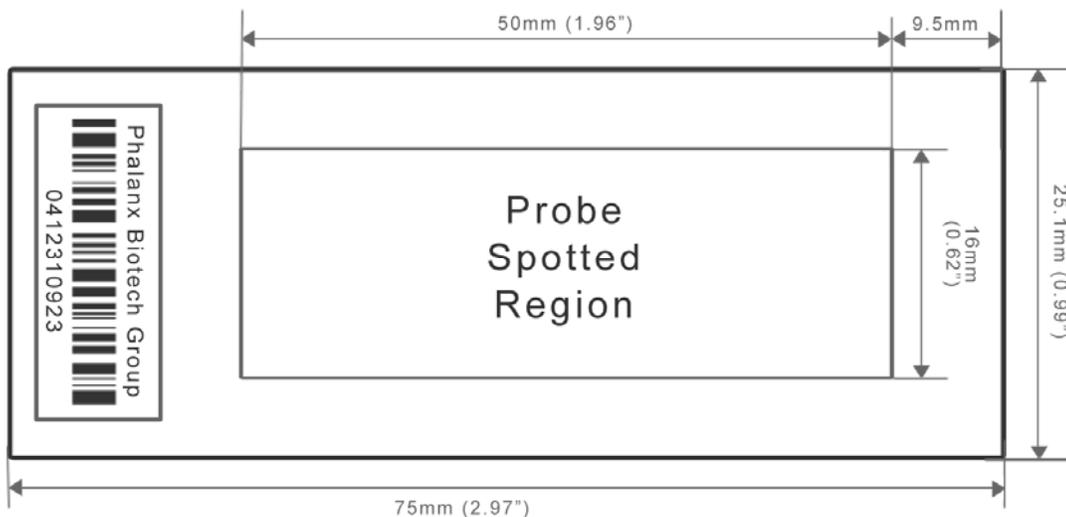

Figure 1: OneArray[®] Microarray Glass Slide with “Probe Printed Region Guide” Plastic Underlay.
- 8) Place the OneArray[®] slide, bar code up, atop the “Probe Printed Region Guide” (included, see Figure 1).
- i. Remove the clear liner on the back of the hybridization chamber. Align the tab-end of the chamber to the edge of the microarray opposite to the barcode. It is easier to hold the long edges of the chamber in one hand and press down the tab with the other hand.(Figure 1)